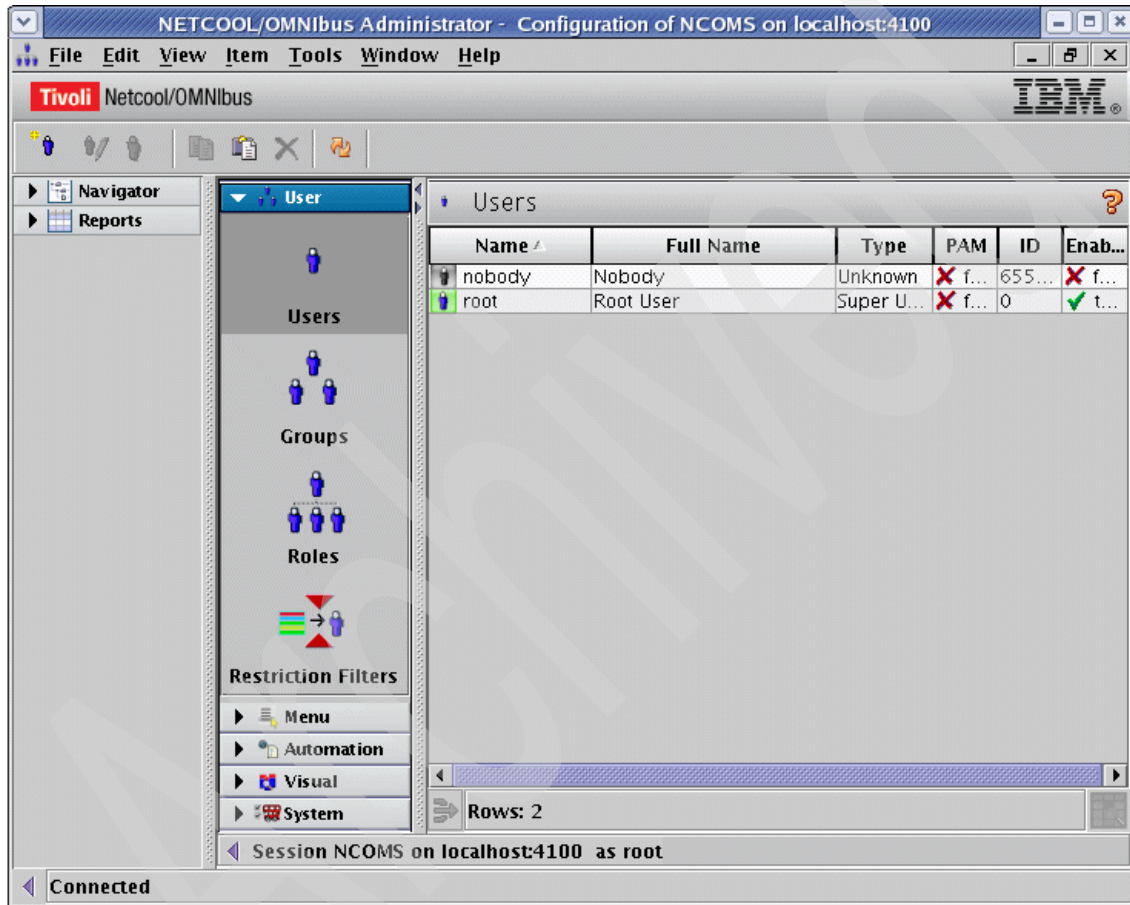

Figure 4-21 IBM Tivoli Netcool/OMNIBus Administrator windows Users tab
1. In the main IBM Tivoli Netcool/OMNIBus Administrator window, select **User** → **Users**, as shown in Figure 4-21.